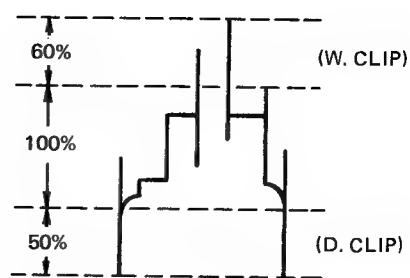

Figure 8-29.
3. Monigoring TP201 with an oscilloscope, adjust R221 (D. CLIP) and R214 (W-CLIP) to attain the rigures given in Figure 8-29.